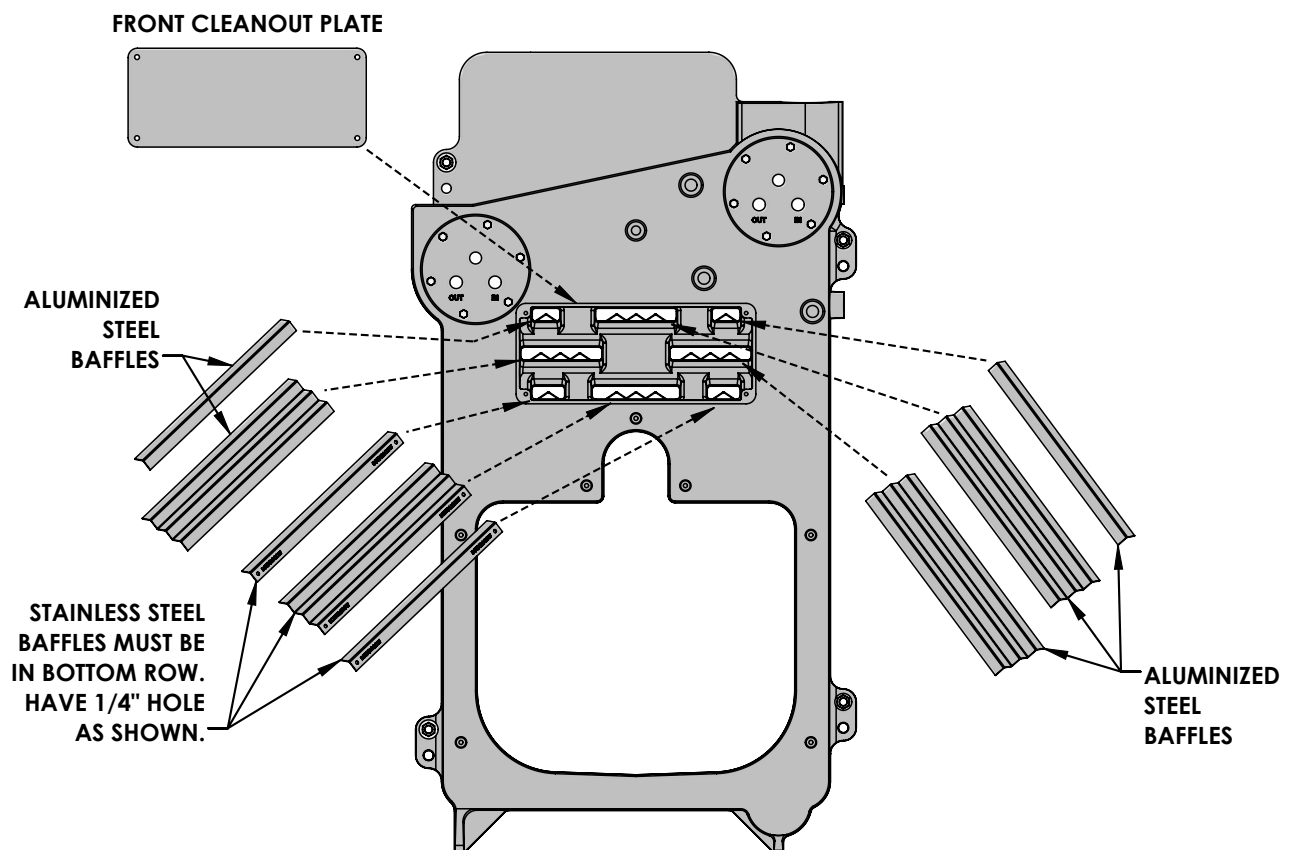

Figure 2.14: Flue Baffle Locations
3. Place baffles as shown in Figure 2.14. Three of these are special stainless steel baffles, identified with a 1/4" hole punched in each end. These baffles must be placed in the lowest row of tubes.